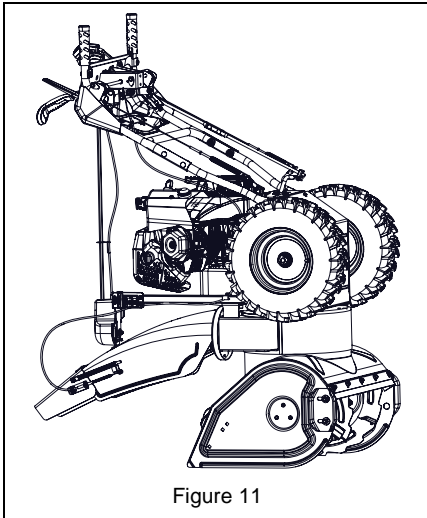

Figure 11
See Figure 11.
1. **Remove Bottom Cover** Place unit in service position (see Figure 11).